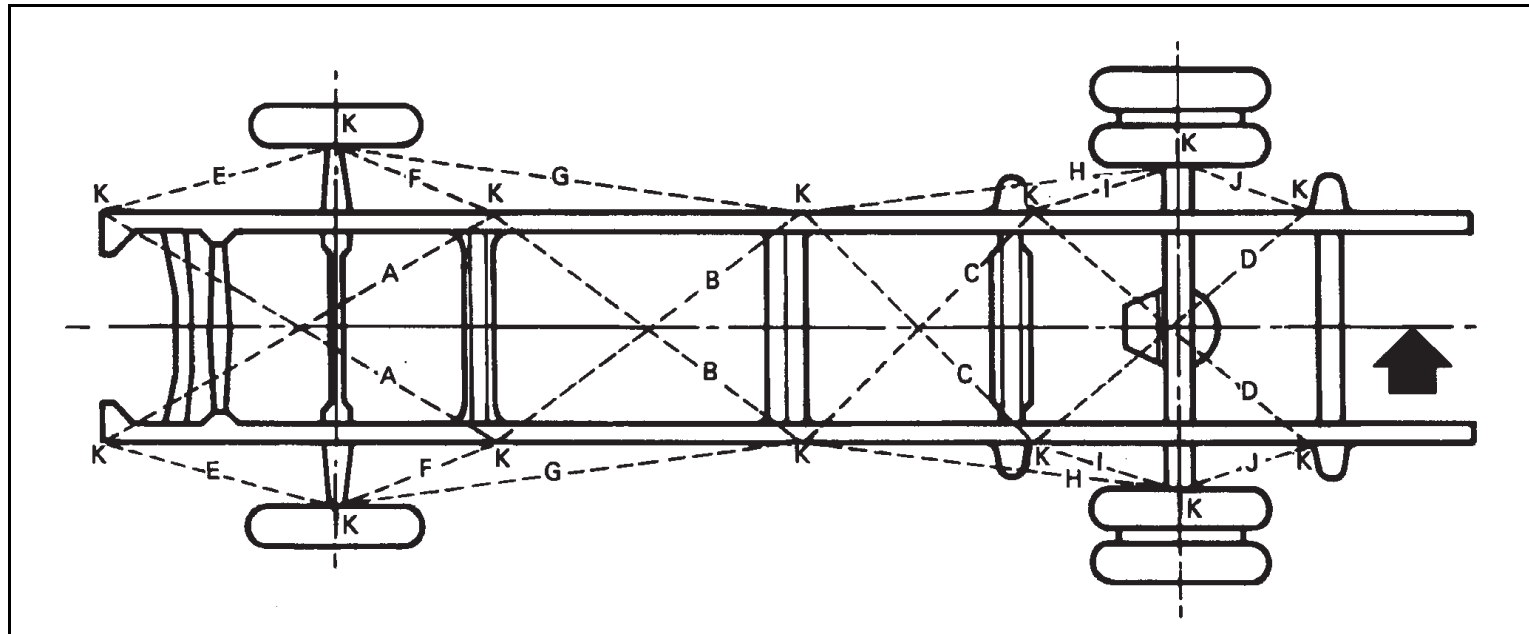

Figure 2.1 Centerline of Chassis
2. Tack or tape pieces of paper to the floor directly under each point of measurement on the chassis as indicated by the letter “K” in Figure 2.1.